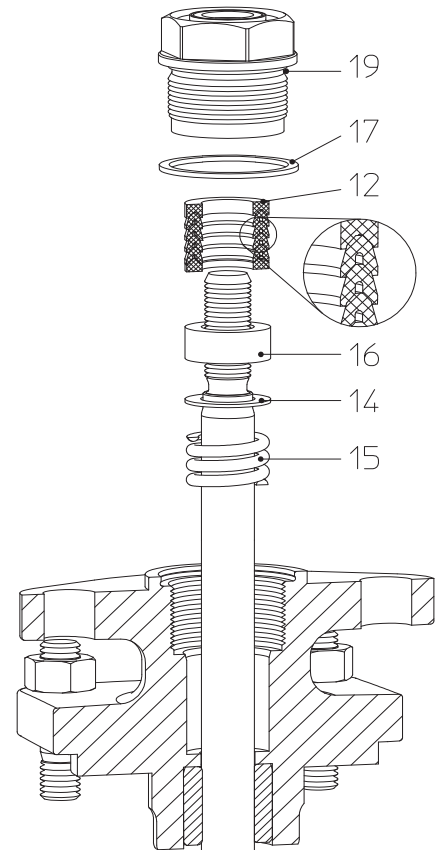

Fig. 17:
- When replacing PTFE V-ring unit (pos. 12), make sure that the parts are installed in the correct order and positions (refer to Fig. 17).
- Gasket (pos. 17) must be replaced.